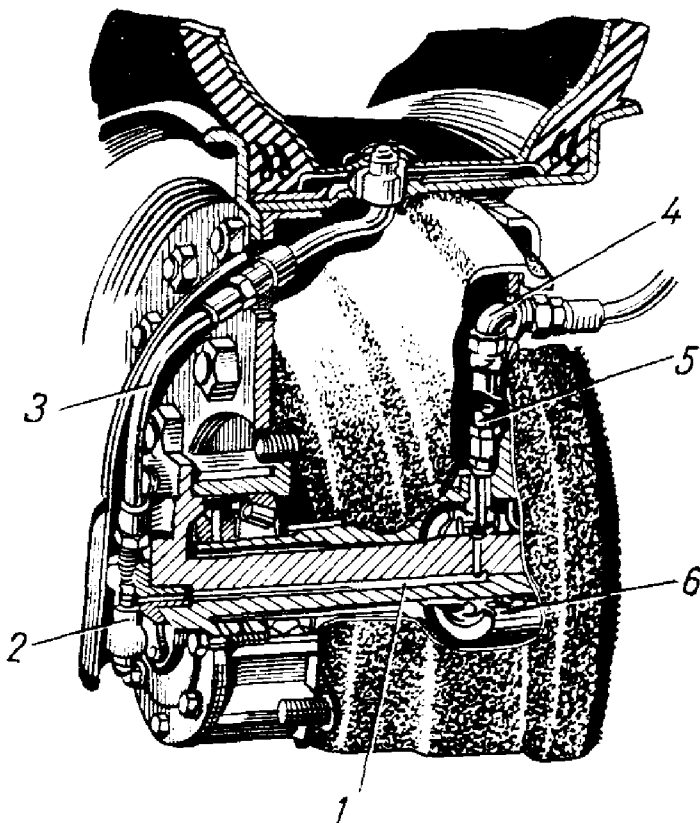

FIG.50. AIR SUPPLY TO WHEEL TYRE THROUGH AXLE SHAFT
4. Close tyre valves 2 (Fig.50).